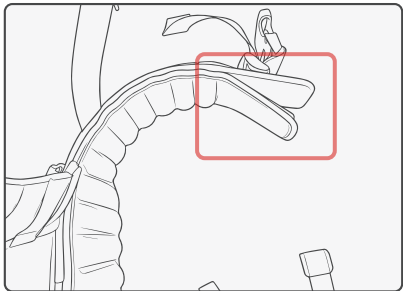

Figure 27 Waist harness
- ⦿ The waist soft fabric is secured with hook-and-loop fasteners. As shown in the figure 27, slowly peel it off from one end.